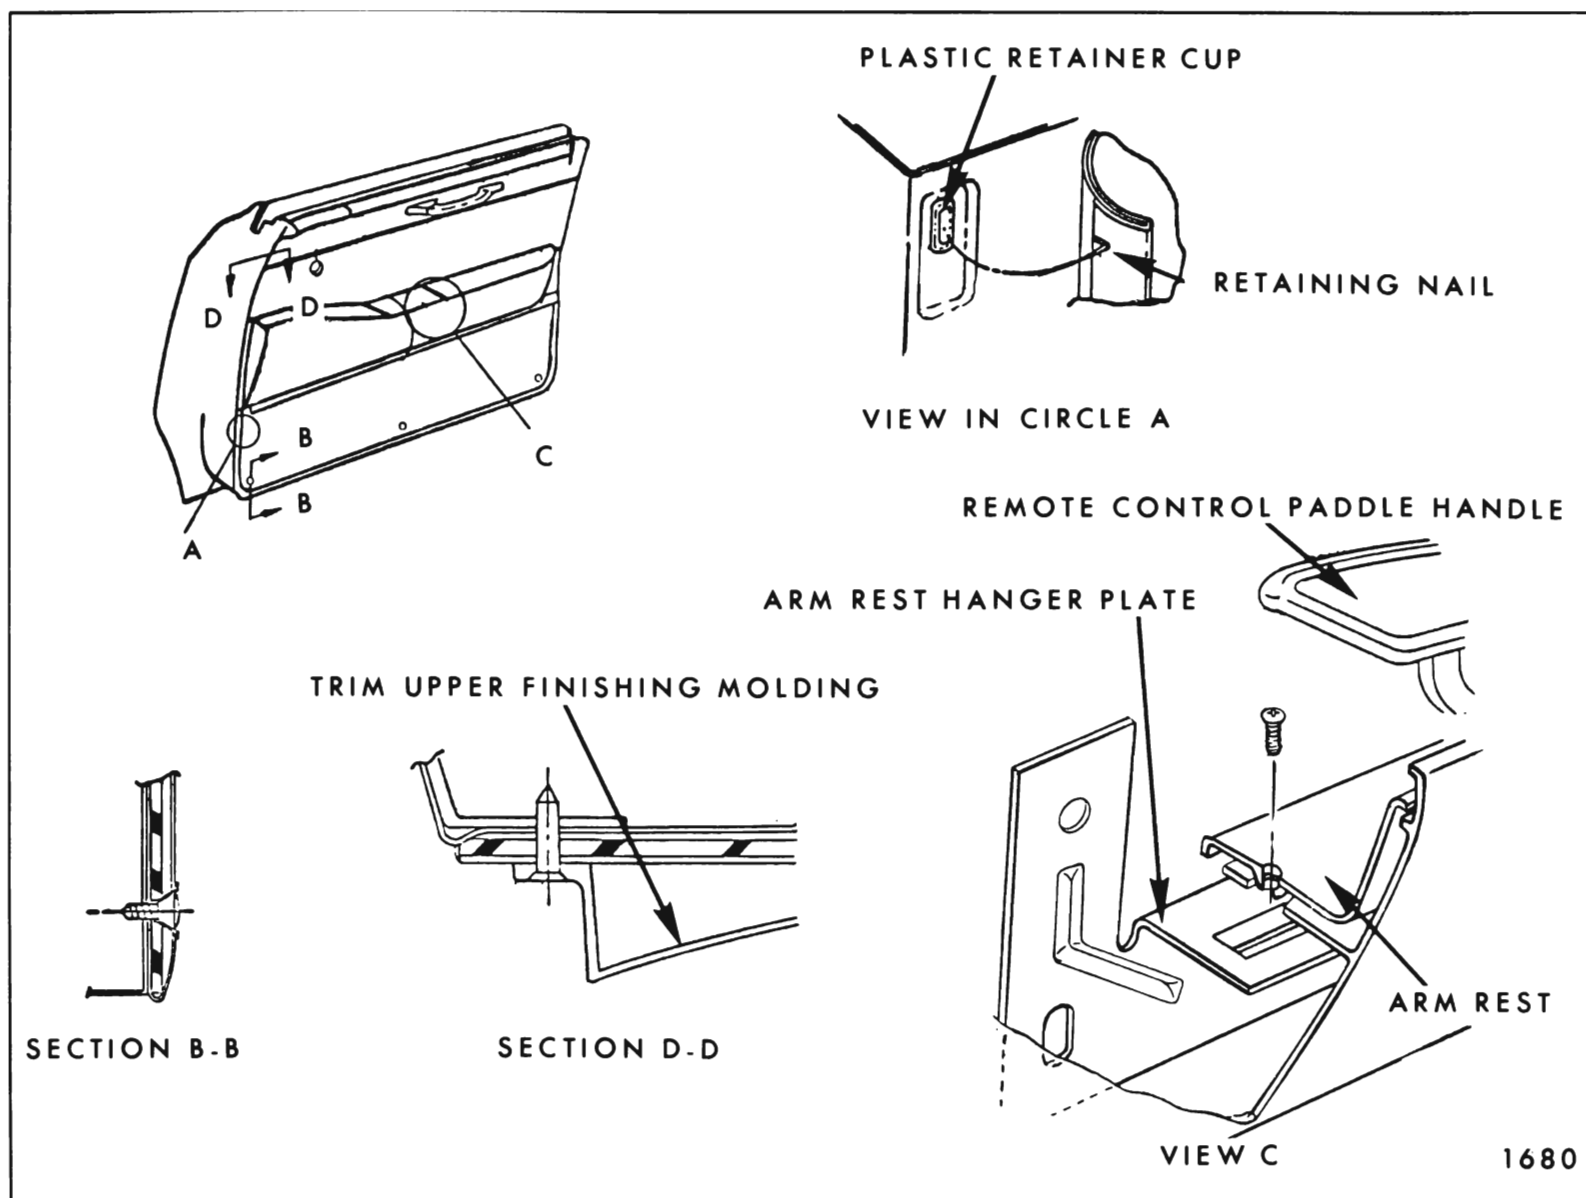

Fig. 7-16—Door Trim Pad Removal
8. Starting at a lower corner, insert tool J-6335 between door inner panel and trim assembly. Working upward, carefully disengage retaining nails from plastic cups inserted in door inner panel. (Fig. 7-16, View "A").